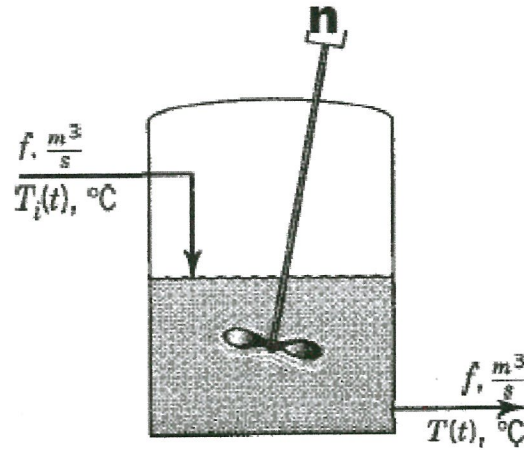

Figure Q2 (d)
- (d) Consider a well-stirred tank in **Figure Q2(d)**. Assume in this process, constant and equal inlet and outlet volumetric flows, liquid densities and heat capacities. The liquid in the tank is assumed to be well mixed, tank is well insulated.